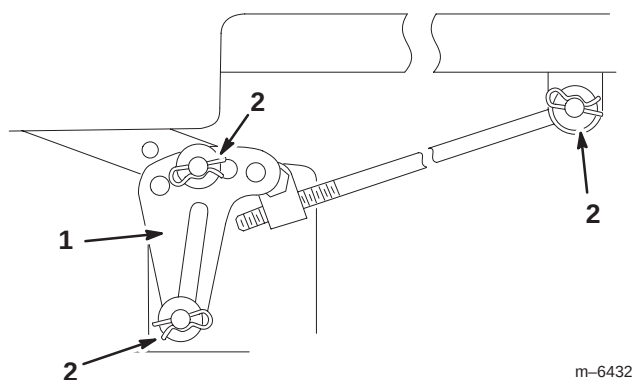

Figure 31
2. Replace the (2) left side mower leveling brackets (hole) with (2) slotted leveling brackets (Fig. 31). Secure them with the existing washers and hairpin cotters (Fig. 31).